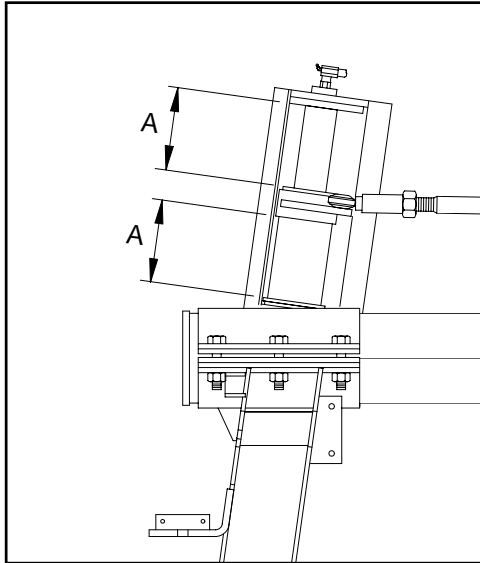
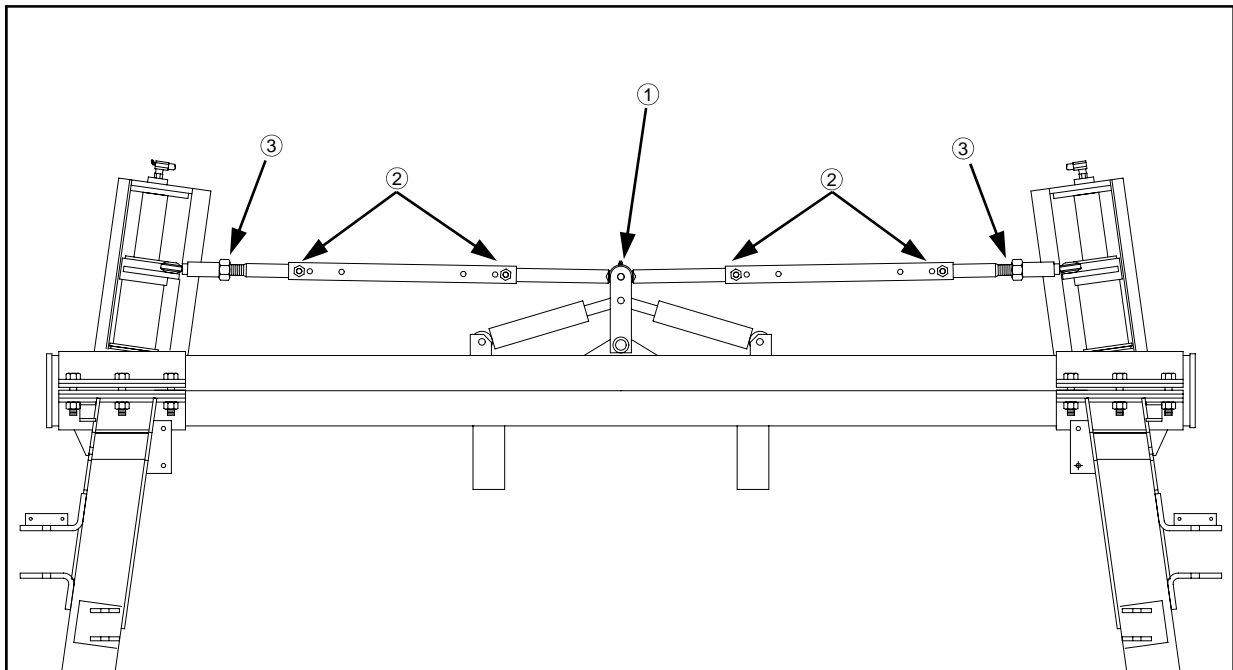

FIG 4.1
FIG 4.2
Dimension A (fig. 4.1) must be equal (see page 87) and steering pivot must be in vertical position (fig. 4.2, item 1).
2. Loosen tie rod bolts (fig 4.2, item 2) and tie rod jam nuts (fig. 4.2, item 3). Remove the bolts and nuts from the tie rod.